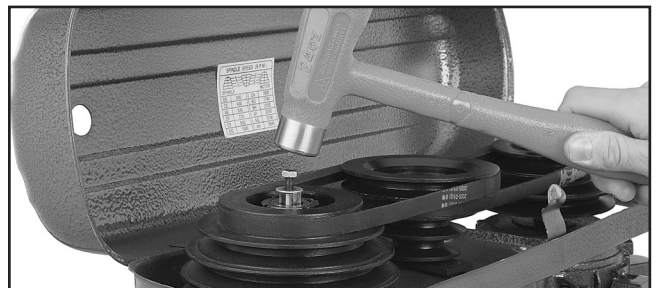

Figure 27. Tapping drawbar with hammer.
2. Using a brass hammer, tap the drawbar from the top, as shown in **Figure 27**, with light blows until the tooling and spindle tapers release.